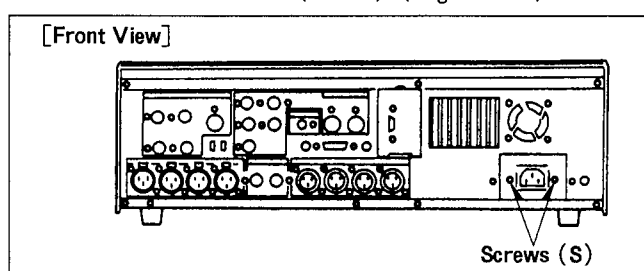

Figure D24
1. Unscrew the 2 screws (S) on the Rear Panel. (Figure D24)